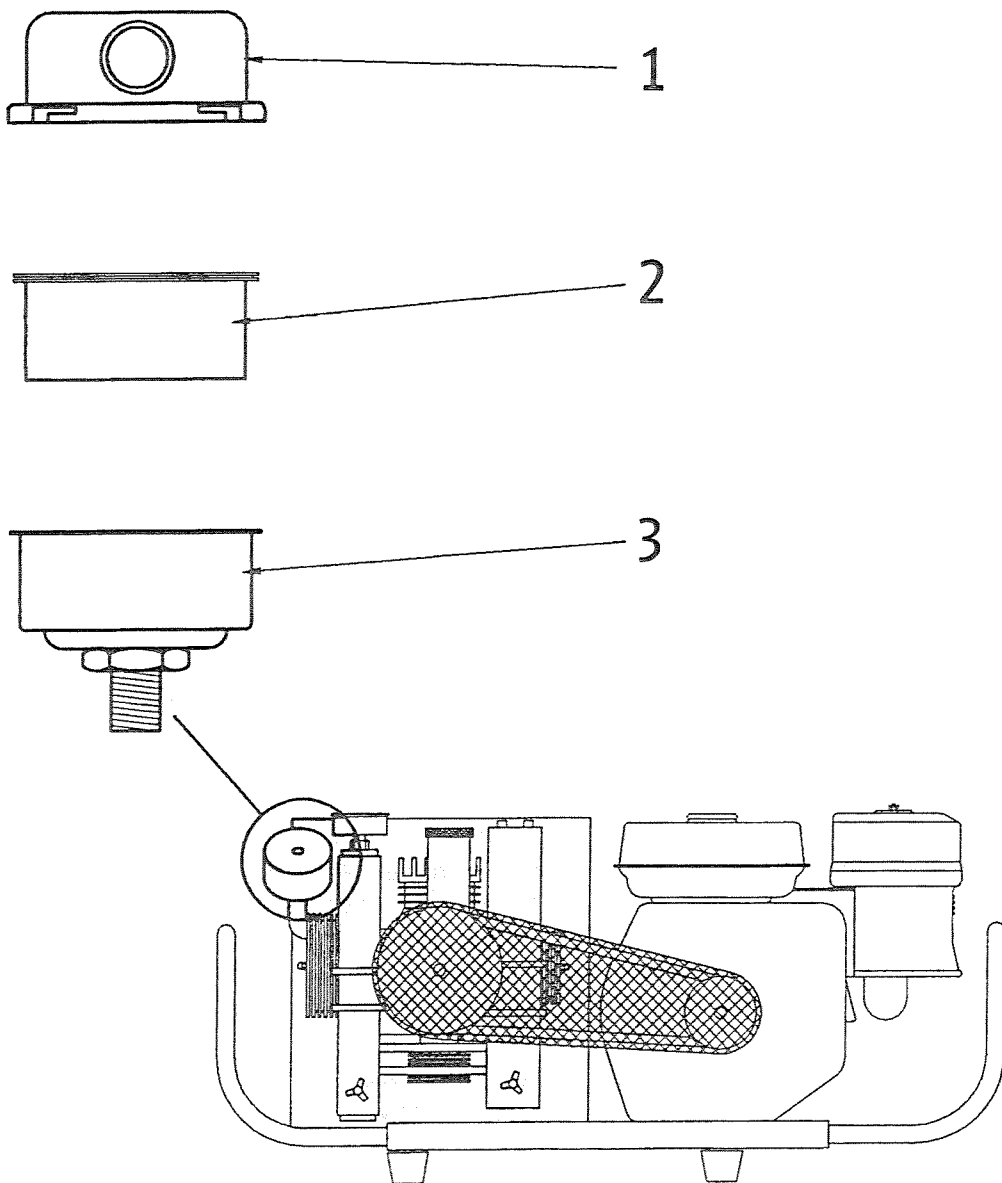

Fig. 14 Replacement of Intake filter element
- 1) Press slightly on cap No. 1 (figure 14) and rotate it clockwise.